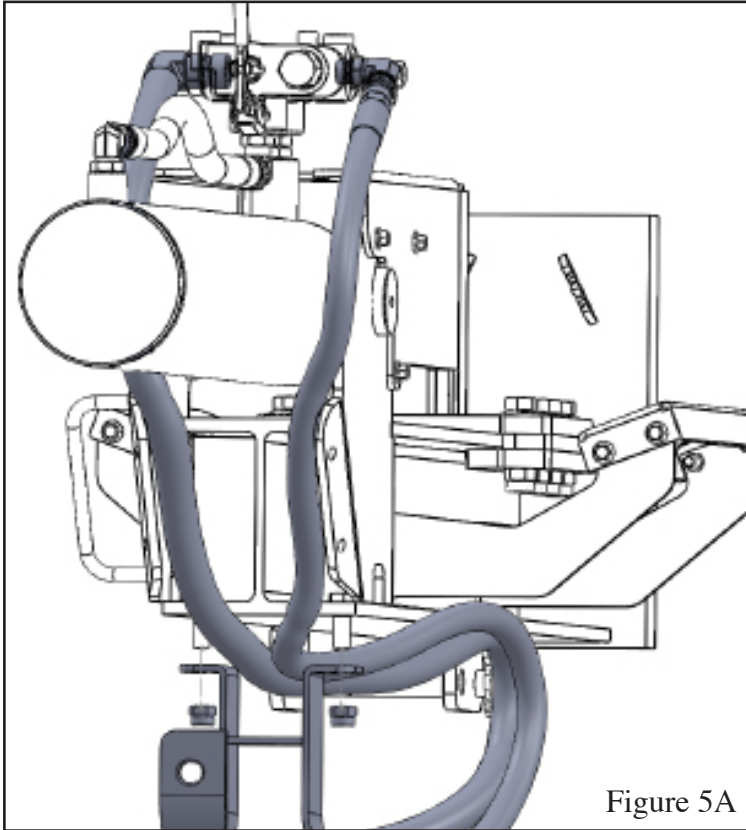

Figure 5A
1. Run the two hoses emerging from either side of the control valve to the underside of the logsplitter as shown in Figure 5A (next page).